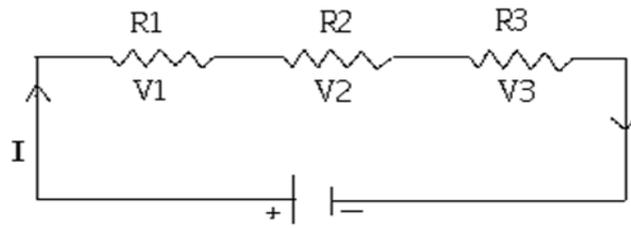

Figure 5
1. Connect the circuit as shown in Figure 5. Make sure to record the values of R_1 , R_2 , and R_3 in your data sheet.